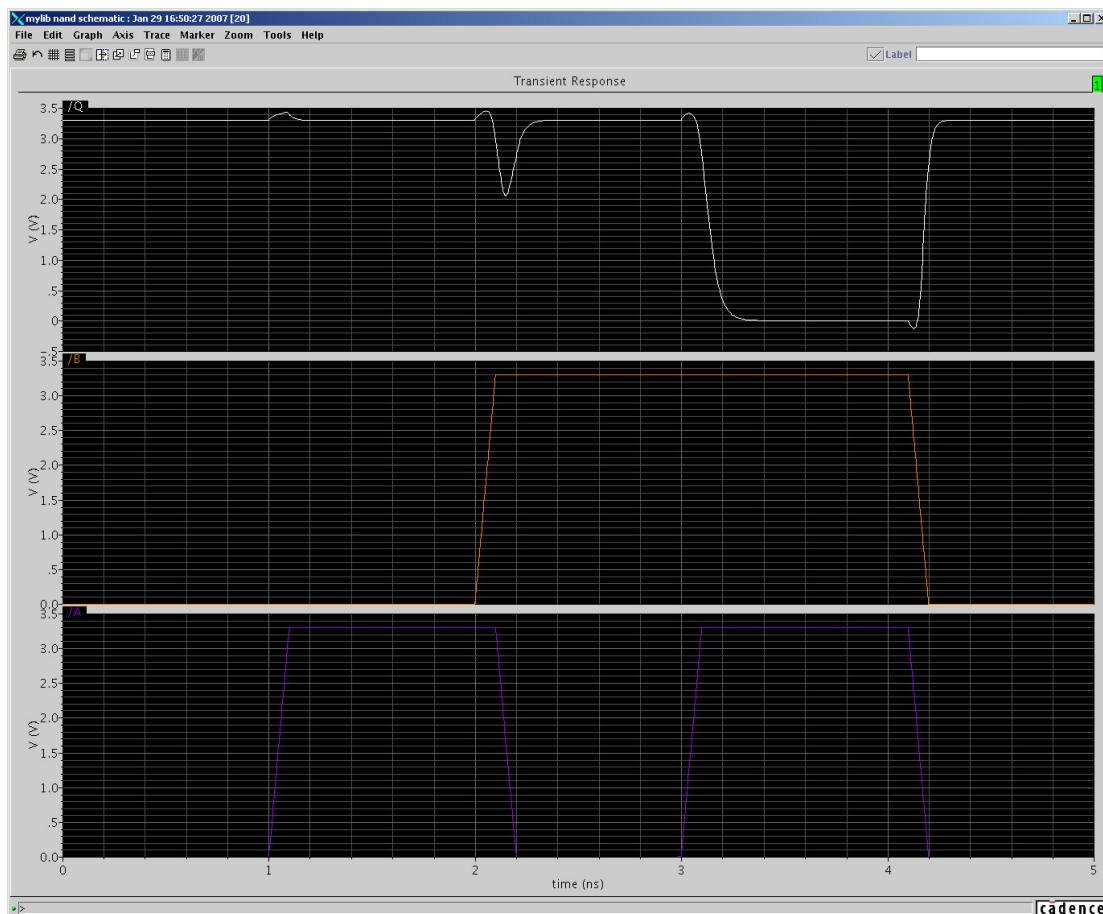

Figure 51. NAND Gate Functional Simulation Results
2. Verify you get a simulation output similar to that in Figure 51. Click on the **Strip Chart Mode** to see the inputs and output separately.
If your output matches the simulation results in Figure 51 then you may proceed with the next phase of the design.